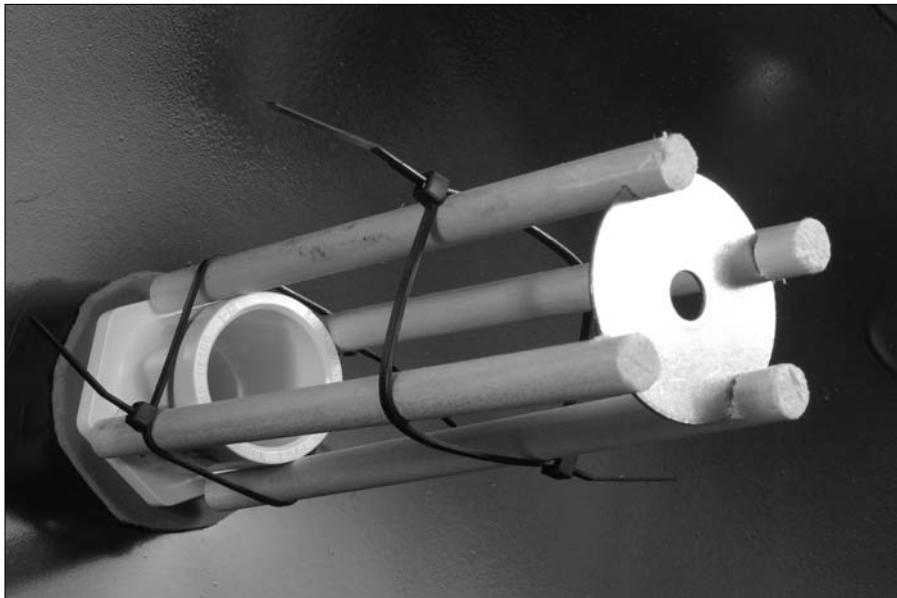

Figure 6-12:
- 3. Assemble the dowels and washer in the parabolic dish, as shown in Figure 6-12.**